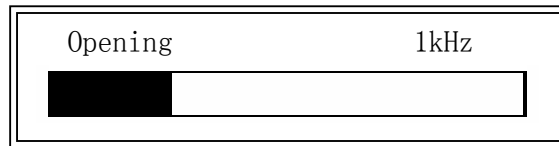

Figure 4-21. Open Correction Information
- 3) Press **OpSWP**. TH2817A will measure the open admittance (capacitance, and inductance) at all frequency points. Figure 4-21 shows the open correction information.